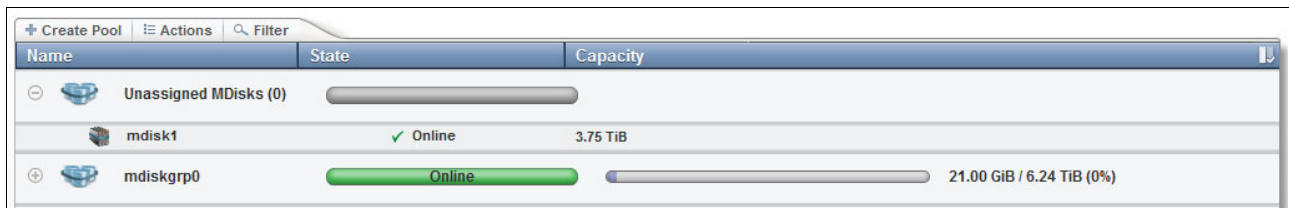

Figure 5-25 New MDisk is unassigned
8. Either click **MDisks by Pools** or click **Close** and then navigate to **Pools** → **MDisks by Pools**, which now shows that the new MDisk is unassigned (Figure 5-25).